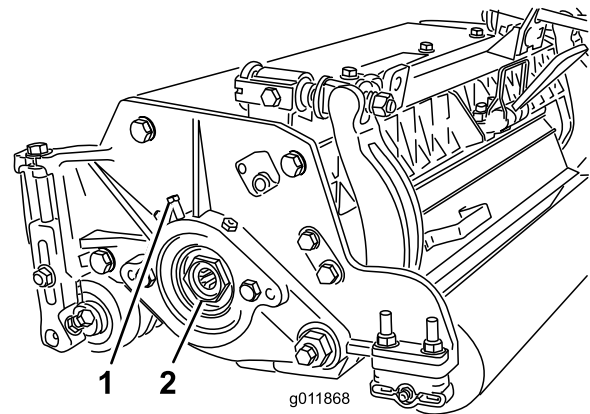

Figure 27
- A. Loosen external set screw securing bearing adjusting nut to bearing housing located on the left side of the cutting unit (Figure 27).